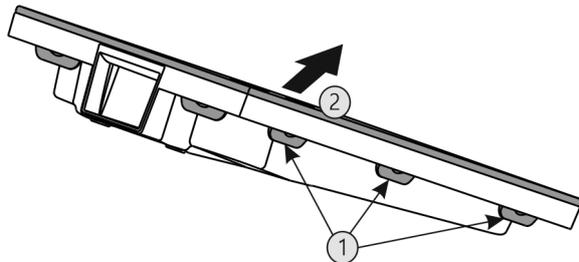

Fig. 39
- ▶ Press all lugs Fig. 39 (1) in succession and remove the lid Fig. 39 (2).